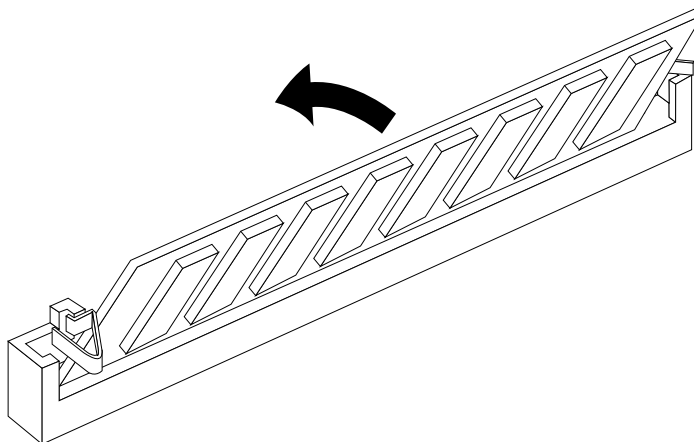

Figure 3-5 Tilting the SIMM up to a Vertical Position
- Tip the top of the SIMM toward you, as shown in Figure 3-5, and press the SIMM securely into the socket at a 45-degree angle to the board.